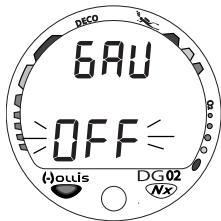

Fig. 28 - Set Digital Gauge
- While the Surface Sequence is scrolling, depress the button until the Set Digital Gauge Mode screen appears with the Set Point flashing (Fig. 28), then release the button; or when the screen appears after having set FO2 50% Default.